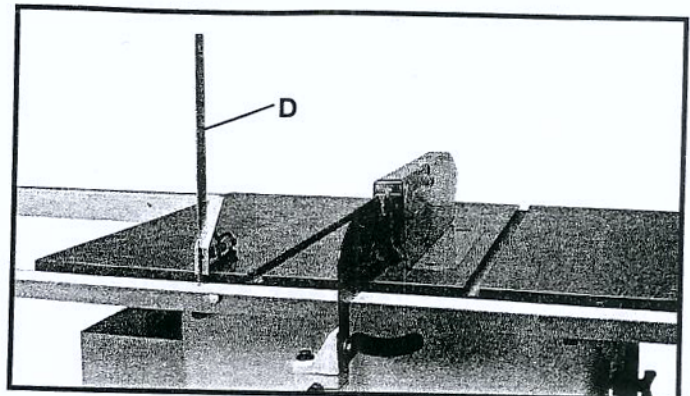

FIG 1
D. MITER GAUGE adjustment and operation (Figure 1)
1. BOLT THE FRONT RAIL TO THE TABLE FRONT SIDE WITH 4pc-M8×1.25p-16mm PAN HEAD SCREW, SET THE COMBINATION SQUARE AT 12mm, ADJUST THE FRONT RAIL TO BE 20mm BELOW THE TABLE SURFACE, LOCK IT (SEE FIG 1).
2. BOLT THE REAR RAIL TO THE TABLE BACK SIDE WITH 4pc M8-1.25p-30mm HEX SCREW, 4pc LOCK WASHER SET COMBINATION SQUARE AT 20mm, ADJUST THE REAR RAIL TO BE 12mm BELOW THE TABLE SURFACE.(SAME AS FIG 1).